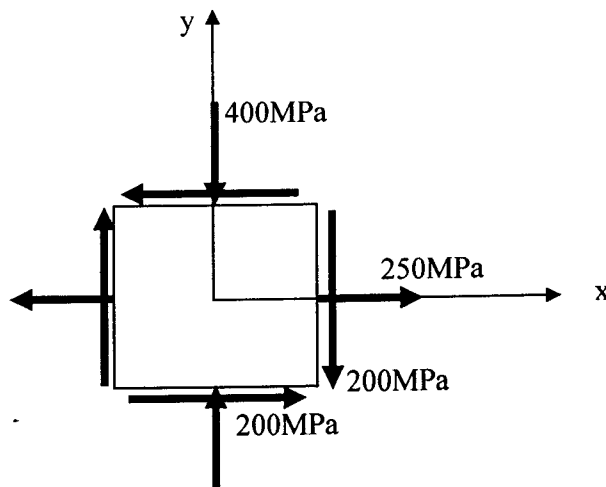

Figure 3
2. Figure 3 shows a stressed element. Using method of Mohr's circle, determine: